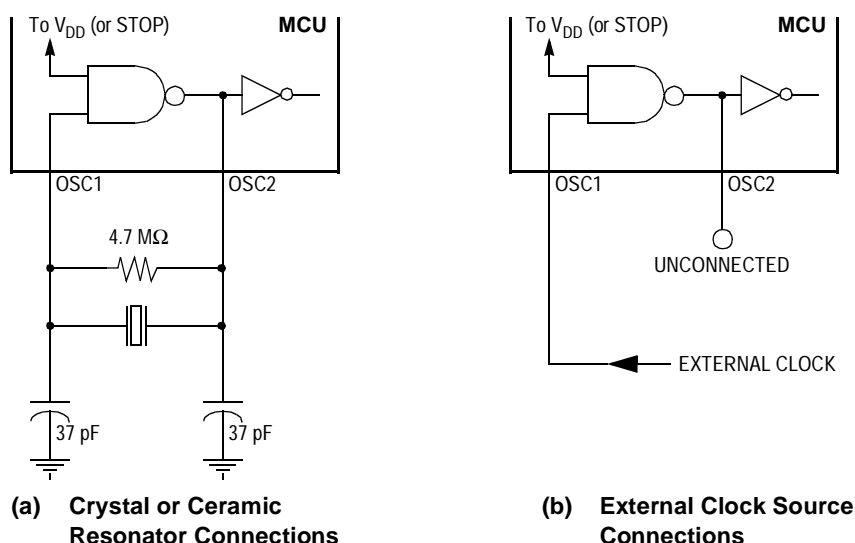

Figure 1-2. Oscillator Connections
1. A crystal as shown in Figure 1-2\(a\)
2. A ceramic resonator as shown in Figure 1-2\(a\)
3. An external clock signal as shown in Figure 1-2\(b\)
The circuit in Figure 1-2\(a\) shows a typical oscillator circuit for an AT-cut, parallel resonant crystal. Follow the crystal manufacturer's recommendations, as the crystal parameters determine the external component values required to provide maximum stability and reliable startup. The load capacitance values used in the oscillator circuit design should include all stray capacitances. Mount the crystal and components as close as possible to the pins for startup stabilization and to minimize output distortion.
In cost-sensitive applications, use a ceramic resonator in place of a crystal. Use the circuit in Figure 1-2\(a\) for a ceramic resonator and follow the resonator manufacturer's recommendations, as the resonator parameters determine the external component values required for maximum stability and reliable starting. The load capacitance values used in the oscillator circuit design should include all stray capacitances. Mount the resonator and components as close as possible to the pins for startup stabilization and to minimize output distortion.
An external clock from another CMOS-compatible device can be connected to the OSC1 input, with the OSC2 input not connected, as shown in Figure 1-2\(b\).